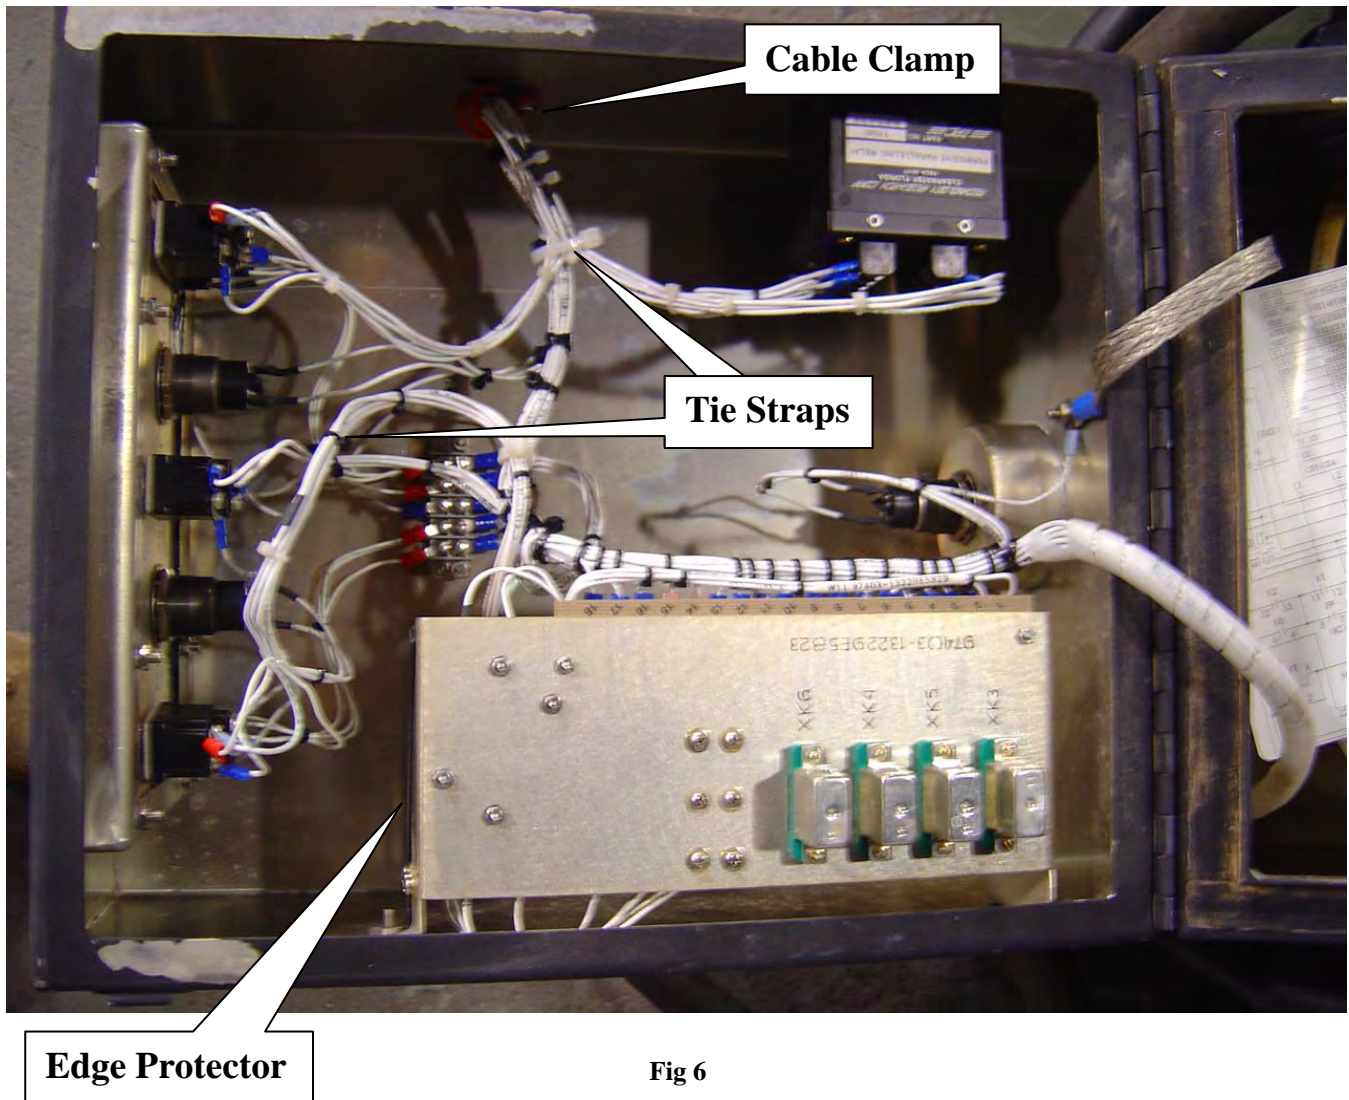

Fig 6
4. Completed modifications shall be as shown in Figure 6.